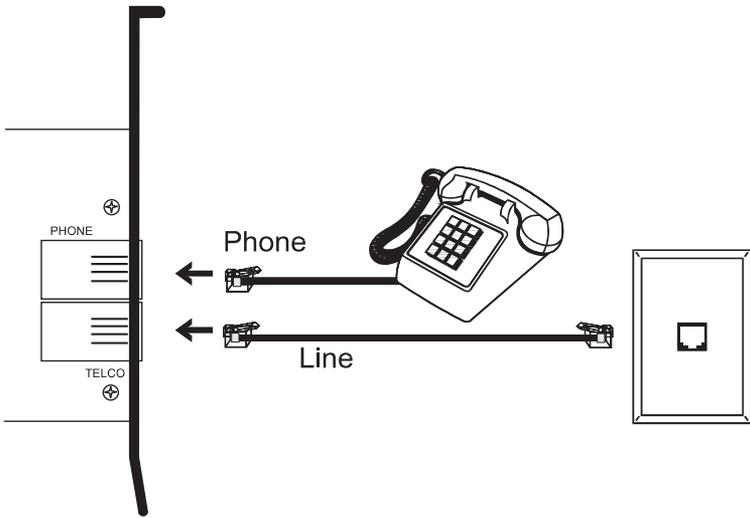

Figure 4: Connecting Devices
8. Connect the telephone line cable to the *Line (Telco)* jack as shown in figure 4.